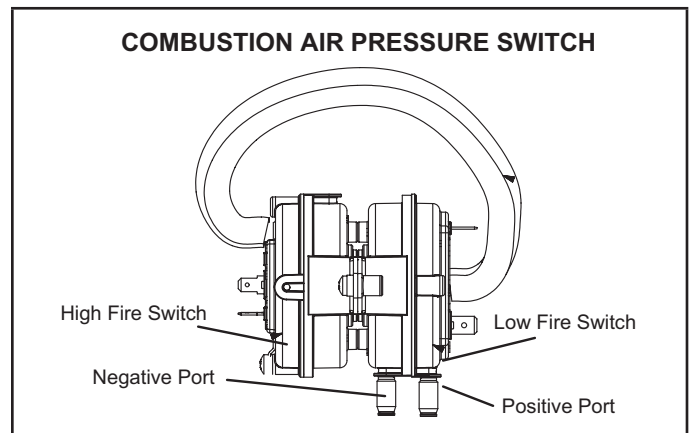

FIGURE 17
EL297UHV(X) series units are equipped with a dual combustion air pressure switch (first and second stage) located on the combustion air inducer orifice bracket. See FIGURE 17. The switch is connected to the combustion air inducer housing by means of a flexible silicone hose. It monitors negative air pressure in the combustion air inducer housing.